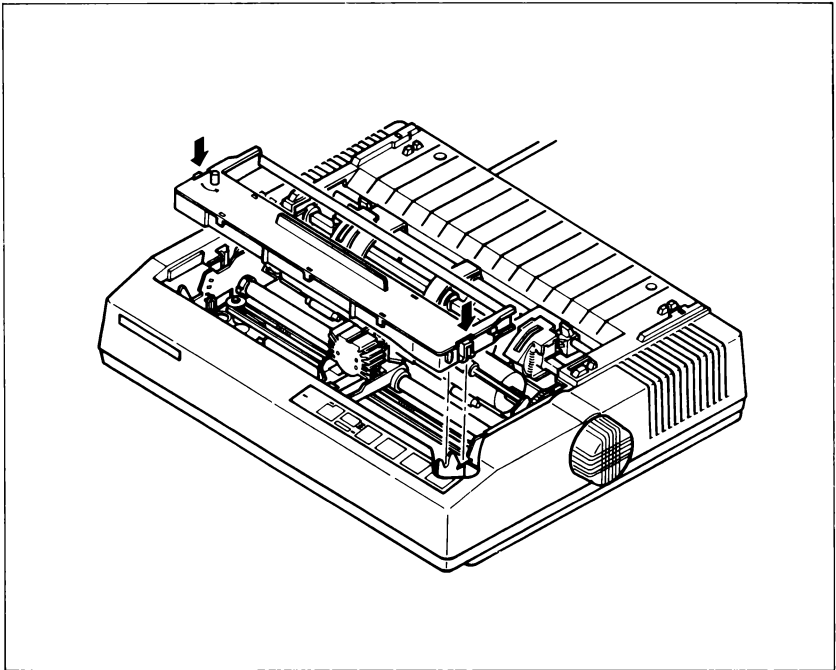

Figure 1-4. Press the cartridge into place until the holding springs snap into its sides.
3. Using the guide holders as a fulcrum with the ribbon facing away from you, as shown in Figure 1-4, lightly press the cartridge down until the two holder springs snap shut to hold the cartridge firmly in place.